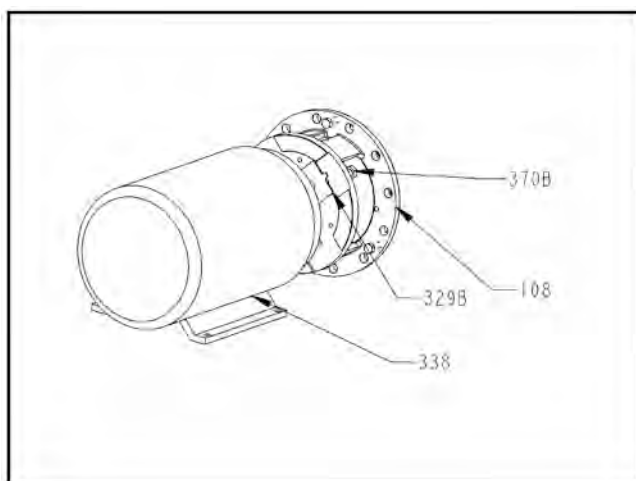

Figure 50:
4. Check adapter fits. Rotate shaft through 360°. If total indicator reading is greater than 0.005 in (0.13 mm), determine the cause and correct before proceeding (Fig. 50).